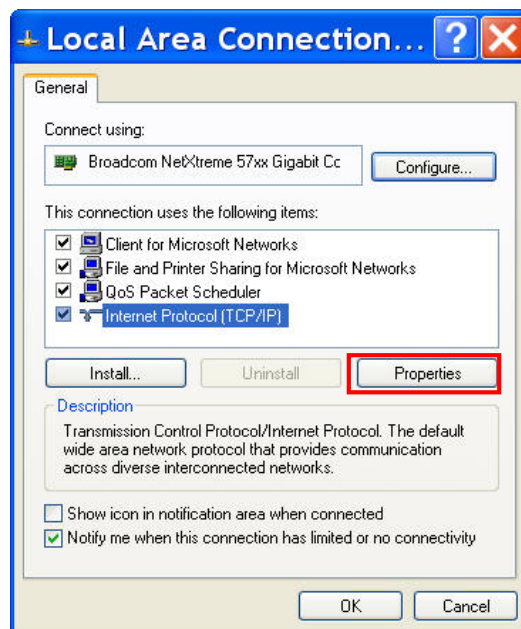

Figure 49: Local Area Connection
4. Click *Internet Protocol* (TCP/IP). See Figure 49.